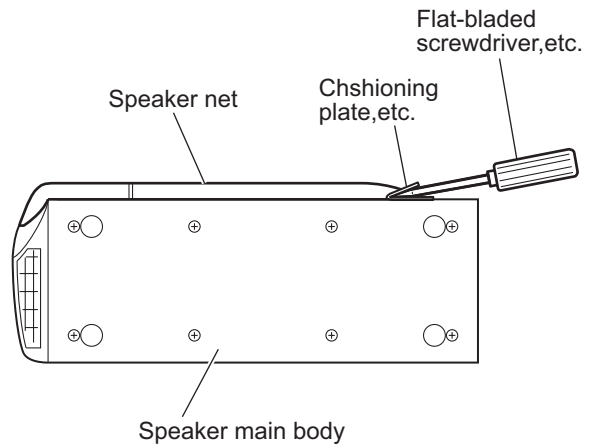

Fig.16
### 3.4.11 Removing the speaker net (See Figs.16 and 17)
- (1) From side of the speaker main body, insert the tip of the flat-bladed screwdriver or similar tool into the space between the speaker main body and speaker net, and lift the speaker net little by little to remove. (See Fig.16)